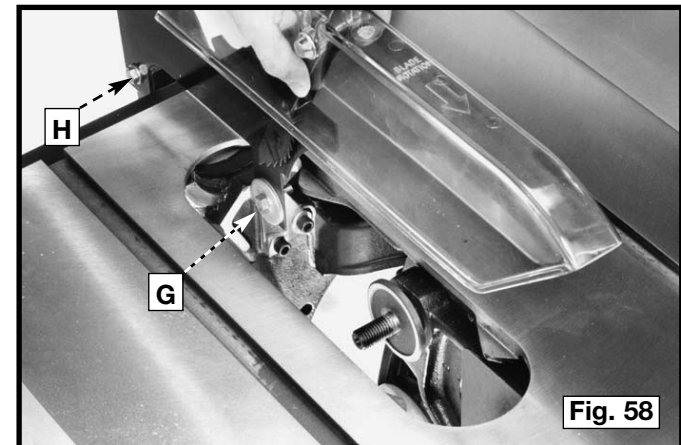
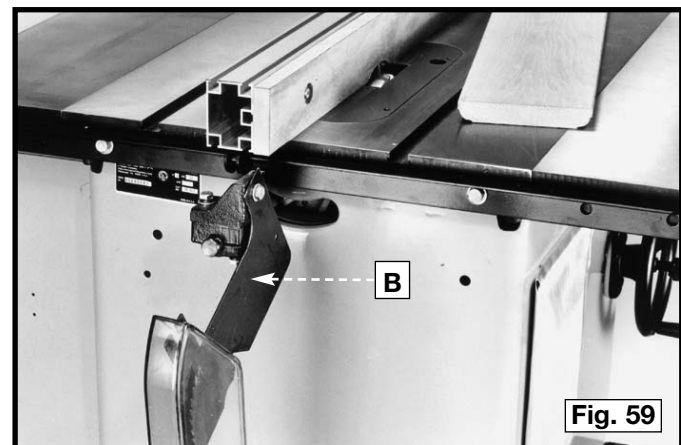

Fig. 58
Fig. 59
⚠ CAUTION For certain cutting operations (dadoing and moulding) where the workpiece is not cut completely through, the blade guard and splitter assembly cannot be used. Loosen screws (G) and (H) Fig. 58. Lift up and swing blade guard and splitter assembly (W) Fig. 59 to the rear of the saw and retighten (H).
2. When using the moulding cutterhead, add wood-facing (C) to the face of the rip fence (Fig. 59). The wood-facing is attached to the fence with wood screws through holes which must be drilled in the fence. Stock that is 3/4" inch thick is suitable for most work, although an occasional job may require 1 inch facing.